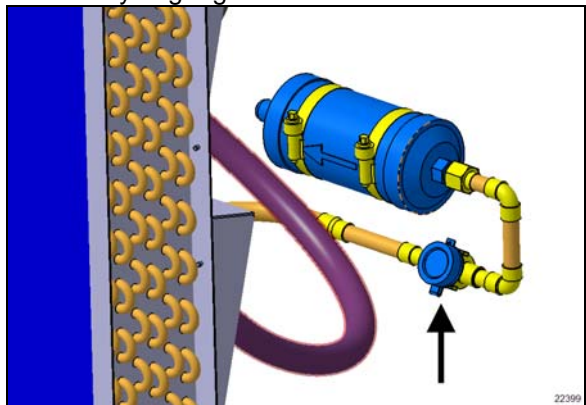

FIGURE 77: MOISTURE INDICATOR SIGHT GLASS
- 2- With the AC on for at least 10 minutes, the moisture indicator sight glass (FIGURE 77) should be clear, not milky, without bubbles in the stream of refrigerant. Bubbles in the moisture indicator sight glass are sign of refrigerant low charge. The filter-dryer nearby should be near constant temperature, less than 5°F differential between inlet and outlet. A partially blocked filter will make some flash gas and give a “milky” sight glass.